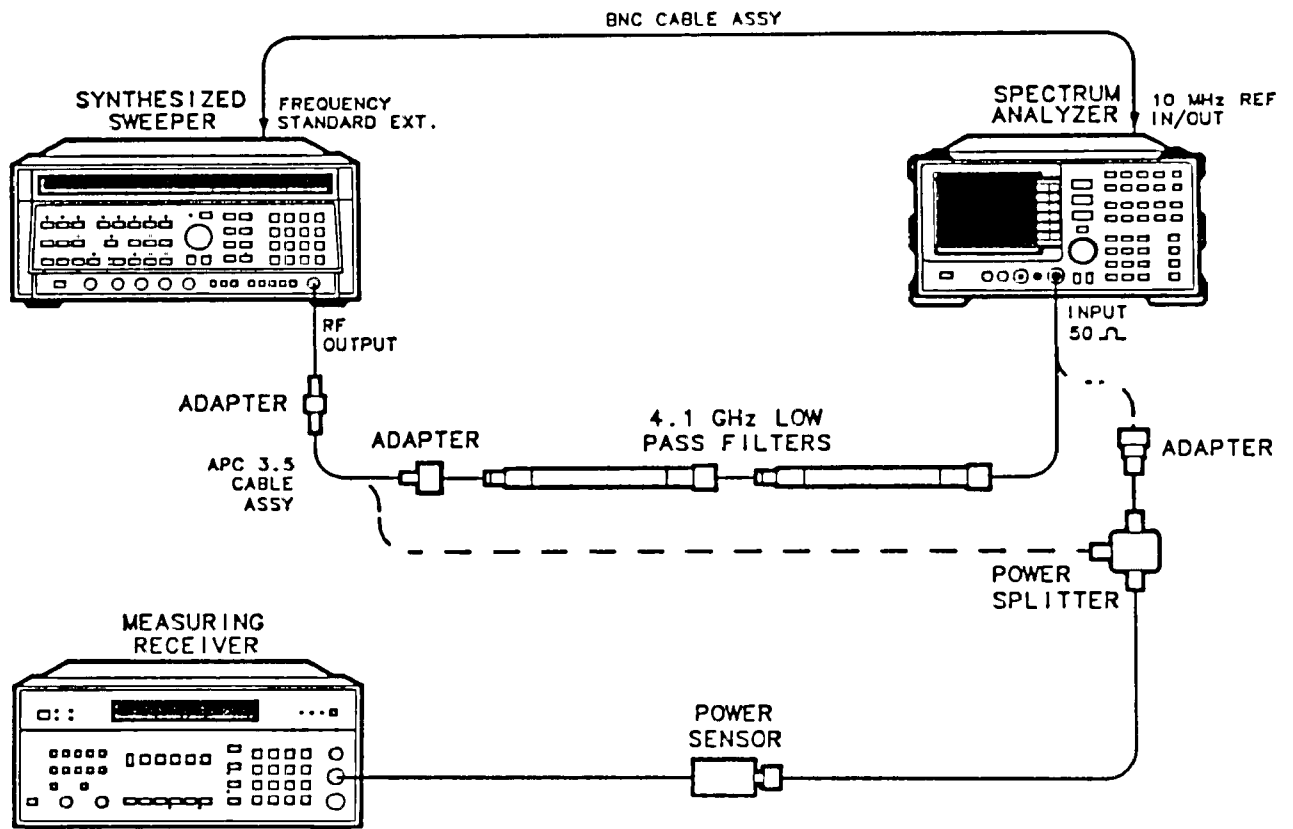

Figure 3-15. Second Harmonic Distortion Test Setup, >2.9 GHz
8. Connect the equipment as shown in Figure 3-15, without the filters in place.
20. Connect the equipment as shown in Figure 3-15, with the filters in place.